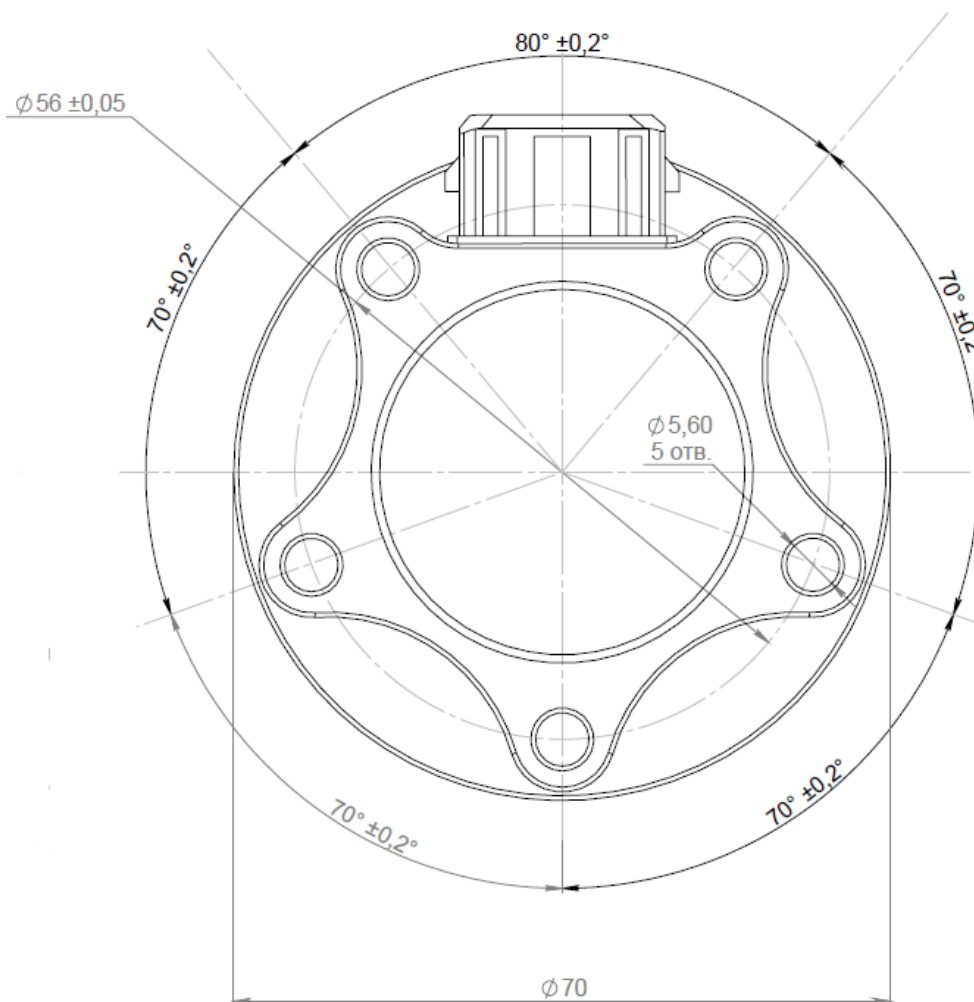

Figure 7 – Hole pattern for screws
1. Drill a central hole for the sensor. Use for drilling a bimetal bit with diameter 35 mm. Put the probes and set marks for other holes. The holes are not symmetric! See Fig. 7 Hole pattern for screws.